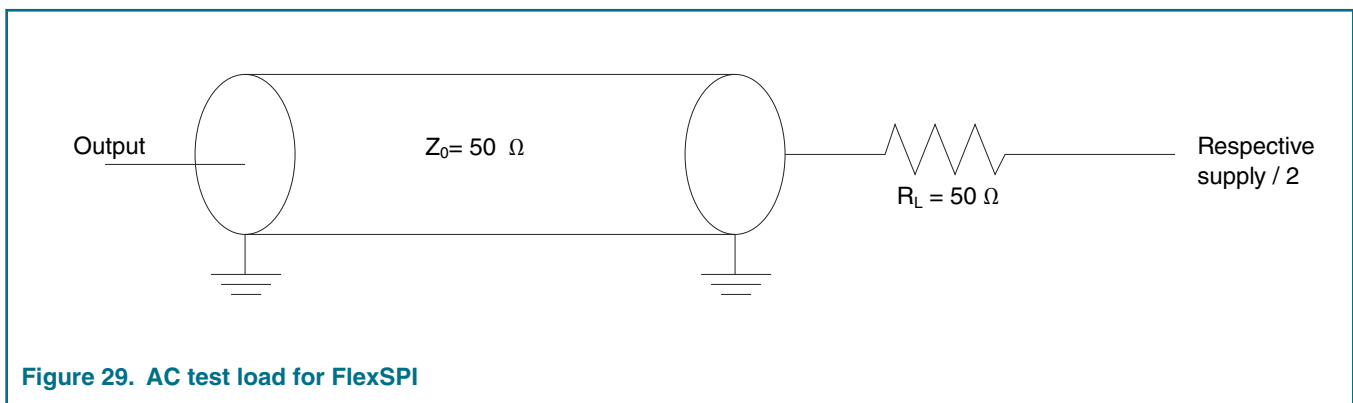
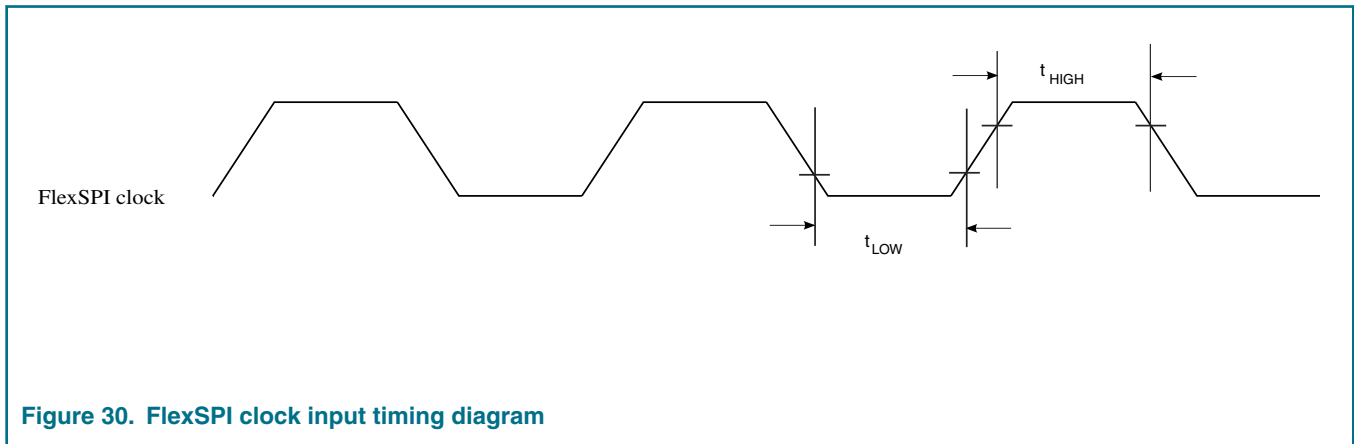

Figure 29. AC test load for FlexSPI
Figure 30. FlexSPI clock input timing diagram
2. See Figure 29, on page 109.
3. See Figure 30, on page 110.
1. Refer Flash Control Register 1 (FLSHxyCR1) in QorIQ LS1028ARM for more details, where x: A or B, y: 1 or 2. 2. See Figure 29 . on page 109. 3. See Figure 30 . on page 110. 4. See Figure 31 . on page 110.
1. Refer Flash Control Register 1 (FLSHxyCR1) in QorIQ LS1028ARM for more details, where x: A or B, y: 1 or 2. 2. For DDR, Unit Interval (UI) is half of period. For example, 5 ns for 100 MHz 3. See Figure 29 . on page 109. 4. See Figure 30 . on page 110. 5. See Figure 32 . on page 111.
2. See Figure 29. on page 109.
3. See Figure 30. on page 110.